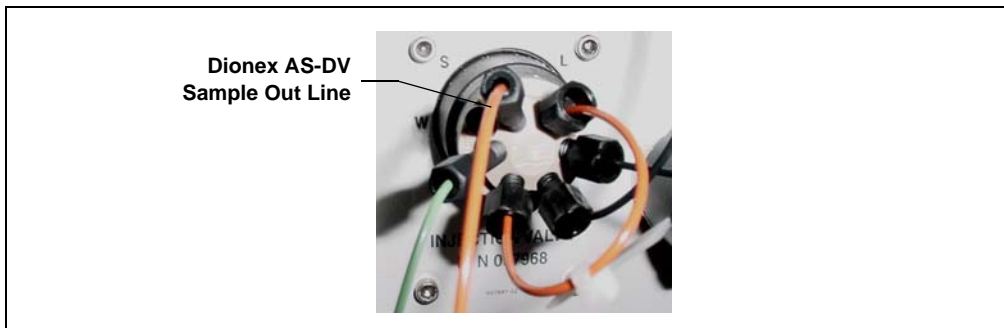

Figure 3-1. Dionex Easion Injection Valve
Connect the sample out line from the Dionex AS-DV to port **S (5)** on the injection valve inside the Dionex Easion (see Figure 3-1). For detailed connection instructions, refer to the Dionex AS-DV operator's manual.